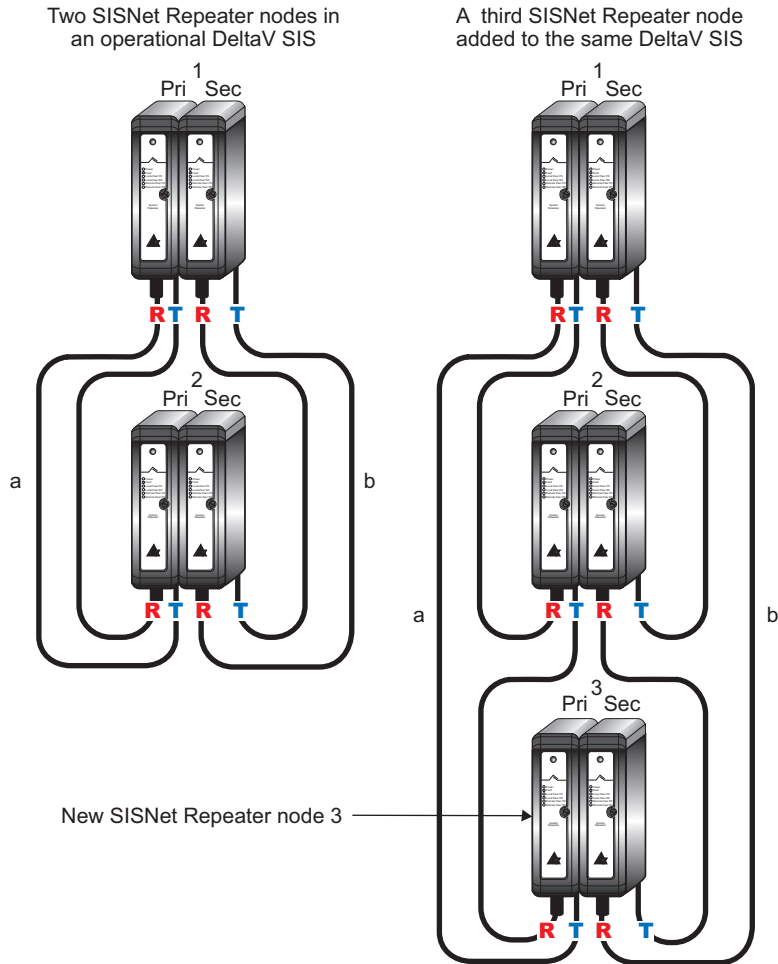

Figure D-1 A Third SISNet Repeater Added to an Operational System
Refer to Figure D-1.
2. Remove cable “a” from the existing two Pri. SISNet Repeater nodes shown in Figure D-1 and replace it with a new fiber-optic cable that connects R (Rx) on Pri. SISNet Repeater 1 to T (Tx) on the new Pri. SISNet Repeater 3.
5. Remove cable “b” from the existing two Sec. SISNet Repeater nodes shown in Figure D-1 and replace it with a new fiber-optic cable that connects T (TxD) on Sec. SISNet Repeater 1 to R (RxD) on the new Sec. SISNet Repeater 3.